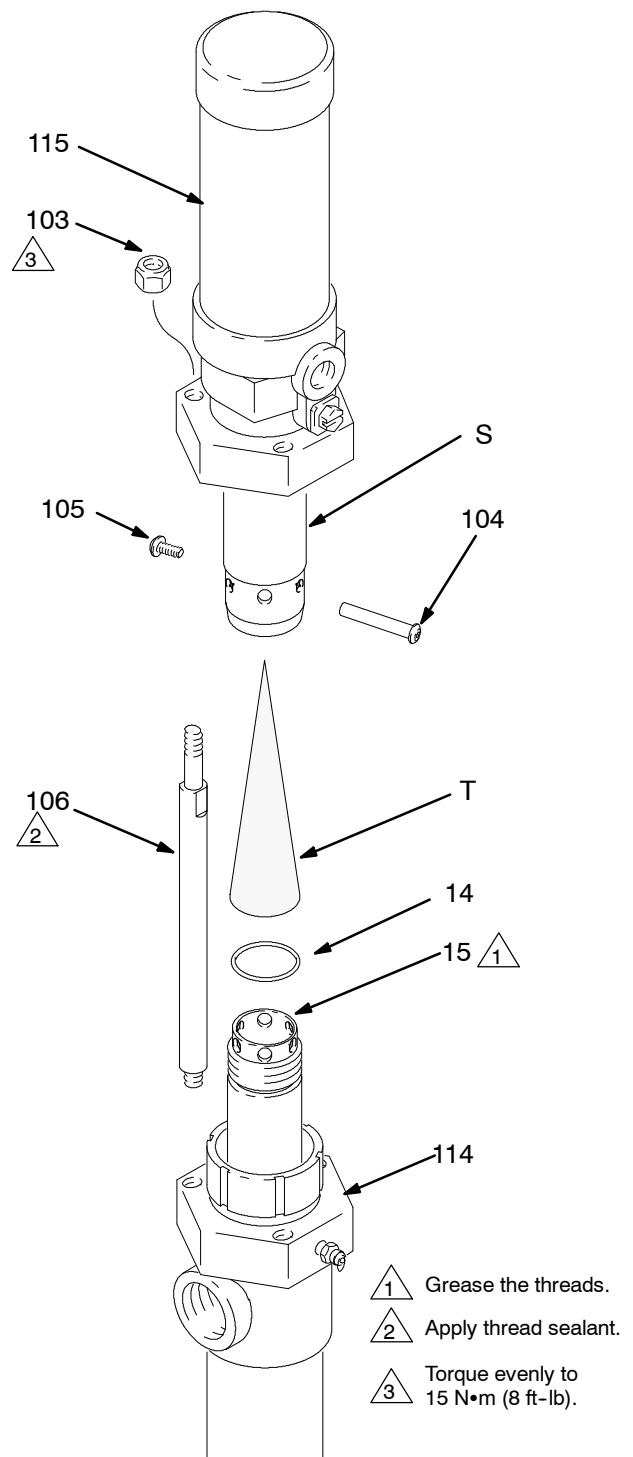

Fig. 6
3. See Fig. 6. Unscrew the tie rod locknuts (103).
4. Unscrew and remove the screw (105) and barrel (104).
5. Raise the air motor (115) away from the displacement pump (114). Unscrew the displacement rod (15) from the air motor connecting rod (S).
1. When reconnecting the air motor, use lithium base grease on the threads of the displacement rod (15). Make sure the o-ring (14) is in place on the rod.
2. Insert the muffler (T) into the air motor connecting rod (S) as shown in Fig. 6.
3. Tighten the displacement rod (15) into the air motor connecting rod hand tight, and install the barrel and screw set (104 and 105).
4. Apply thread sealant to the threads of the tie rods (106). To ensure proper alignment, first thread the tie rod locknuts (106) loosely onto the tie rods, then torque evenly to 15 N•m (8 ft-lb).